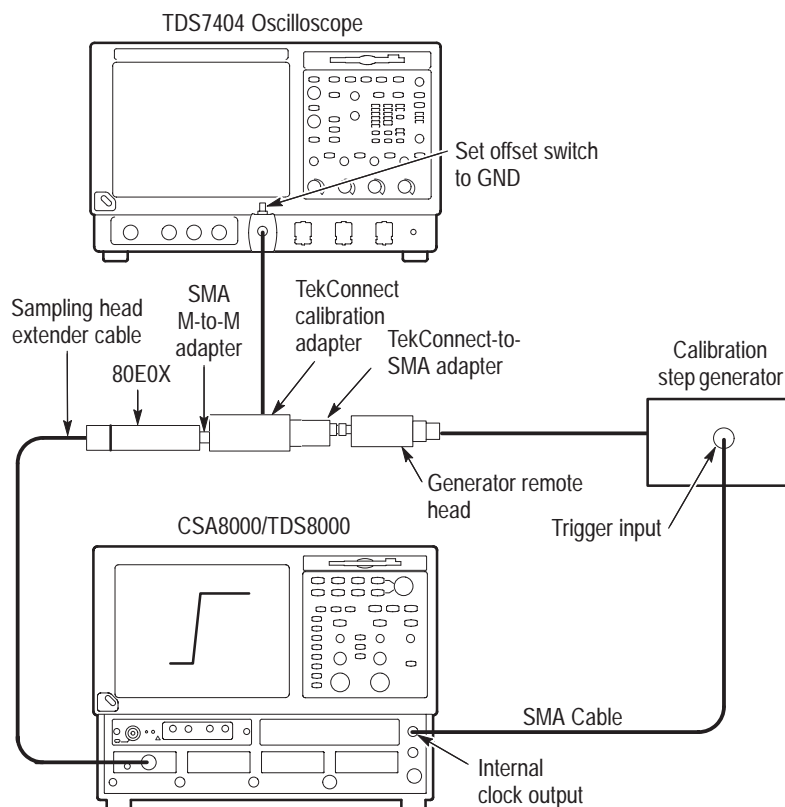

Figure 8: Test system rise time setup
1. Connect the test equipment as shown in Figure 8.
4. Adjust the oscilloscope horizontal and vertical position controls to display a signal similar to that shown in Figure 8.